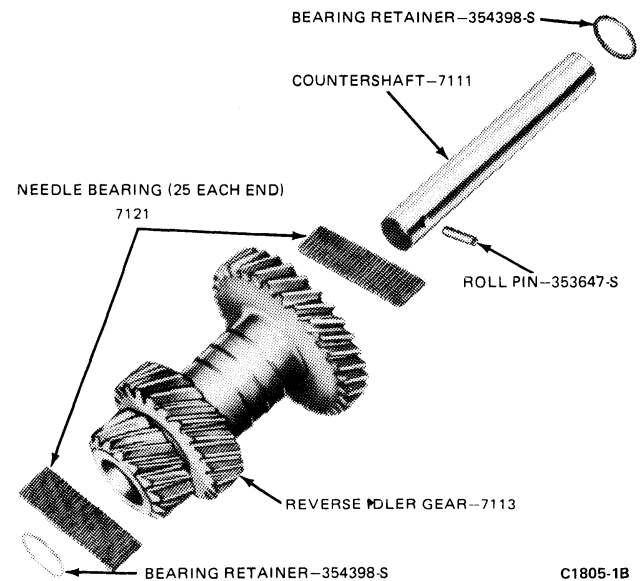

FIG. 28 Countershaft Gear—Disassembled
1. Remove the dummy shaft, fifty needle bearings, and the two bearing retainer washers from the countershaft gear (Fig. 28).